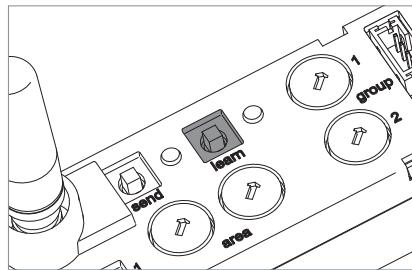

Fig. 28: "learn" key.
- ▶ Press the "learn" key and keep the key depressed for at least 15 seconds until the "learn" and "send" LEDs are permanently lit, see Fig. 28.